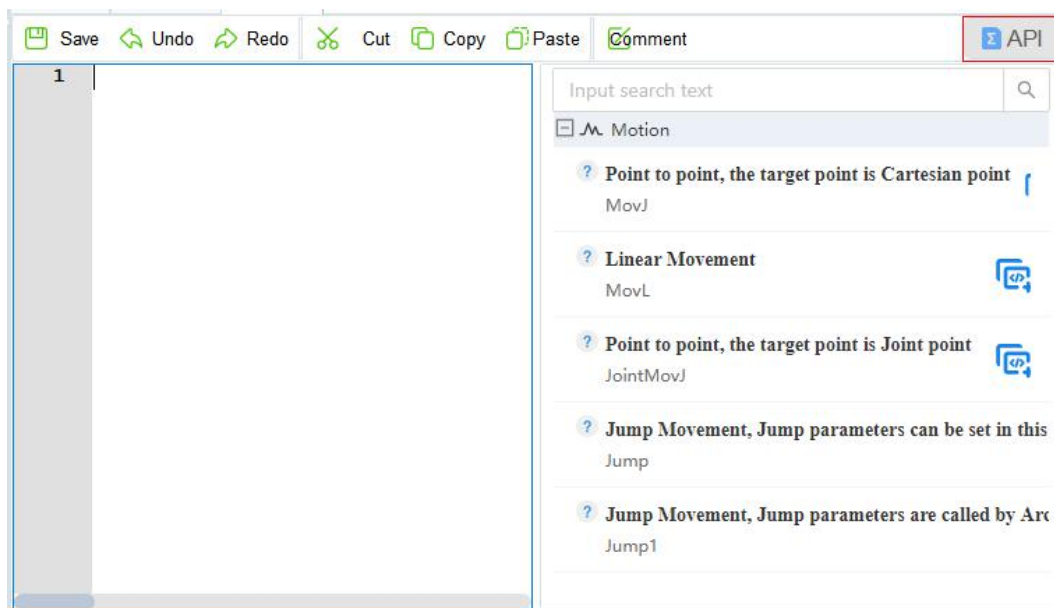

Figure 3.18 Command list
**Step 1** Click , and the command list will display on the right side of the page, as shown in Figure 3.18.